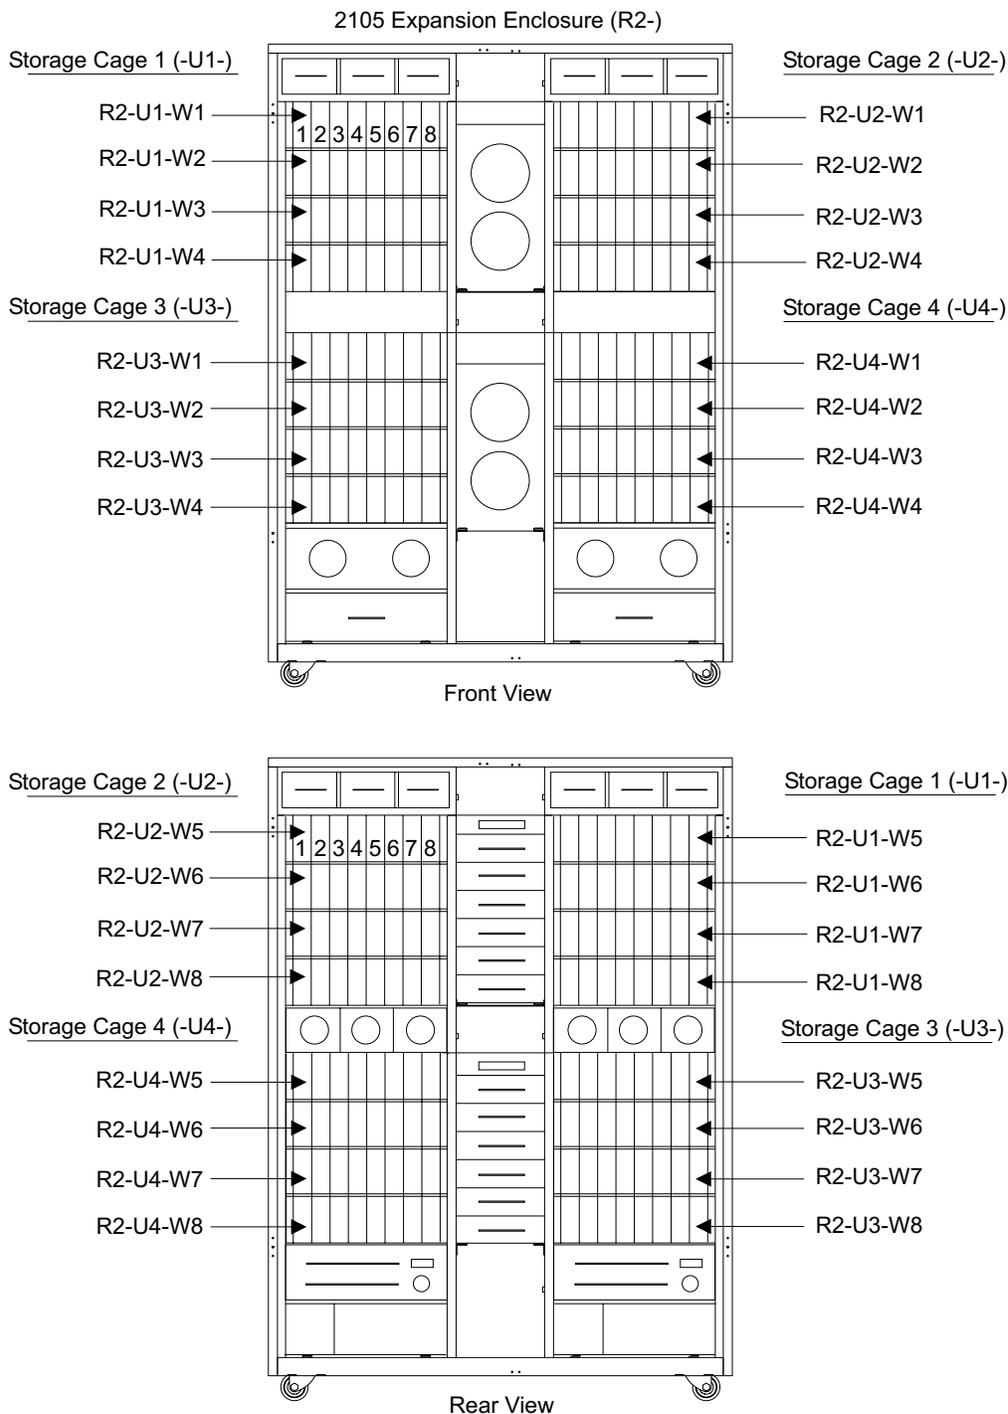

Figure 298. Location Codes for DDM bays in a 2105 Expansion Enclosure (S007741s)
- ___ 1. Determine the locations of the storage cages installed in the 2105 Expansion Enclosure using Figure 298 on page 304.
- ___ 4. Determine the locations of the DDM bays installed in the 2105 Expansion Enclosure using Figure 298 on page 304.